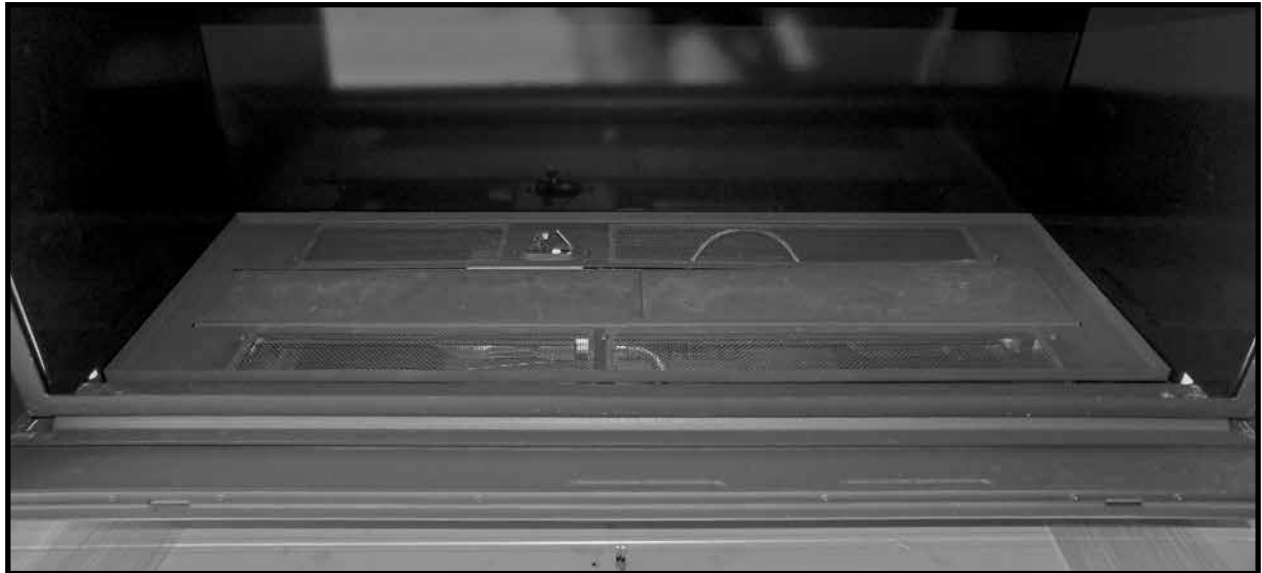

Figure 60: Burner tray installed and secured.
6. Install the burner tray and secure with provided screws (Figure 60).
2. Remove media (sand or glass) completely and remove the fastened burner tray (Figure 60).